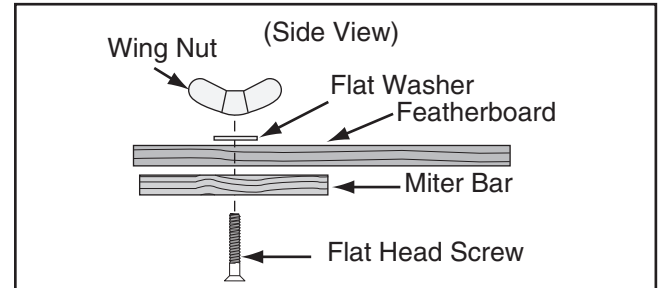

Figure 72. Assembling miter slot featherboard components.
8. Assemble miter bar and featherboard with $\frac{1}{4}$ "-20 x flat head screw, flat washer, and wing nut (see **Figure 72**). Congratulations! Your featherboard is complete.